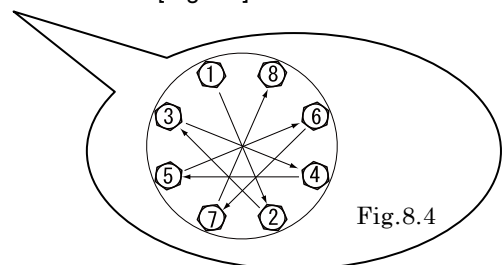

Fig.8.4
- Tighten the bolts in the order shown. [Fig.8.4]